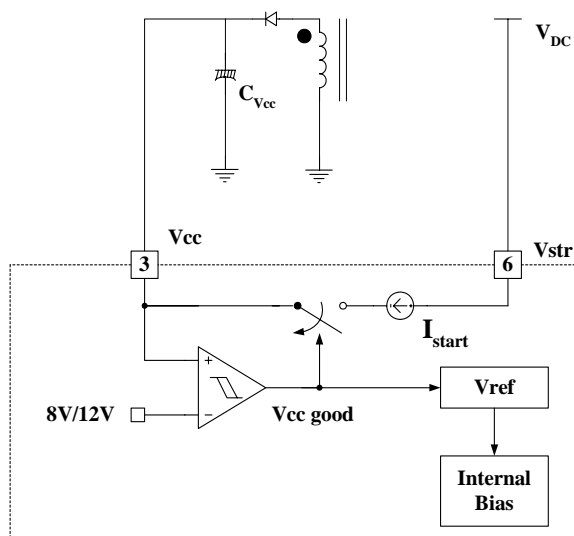

Figure 4. Internal startup circuit
**1. Startup** : In previous generations of Fairchild Power Switches (FPSTM) the Vcc pin had an external start-up resistor to the DC input voltage line. In this generation the startup resistor is replaced by an internal high voltage current source. At startup, an internal high voltage current source supplies the internal bias and charges the external capacitor ( $C_{Vcc}$ ) that is connected to the Vcc pin as illustrated in Figure 4. When Vcc reaches 12V, the FSDM0565RB begins switching and the internal high voltage current source is disabled. Then, the FSDM0565RB continues its normal switching operation and the power is supplied from the auxiliary transformer winding unless Vcc goes below the stop voltage of 8V.